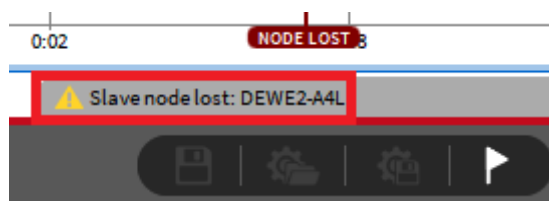

Figure 12-27: Software feedback on master device if slave node loses network connection
- The master device adds a *Node Lost* marker to the Event List and displays the message *Slave Node Lost:...* in the lower right corner of the software (see Figure 12-27)